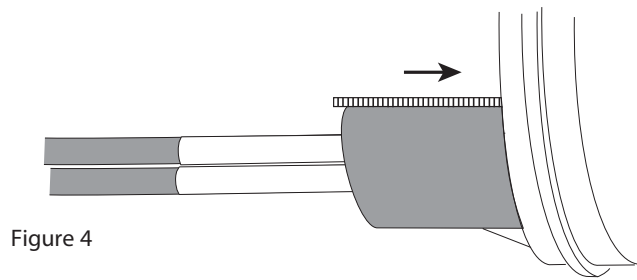

Figure 4
8. Slide the channel on the rail, being careful not to pinch the adhesive flap or the foam block between the rails. (Figure 4)